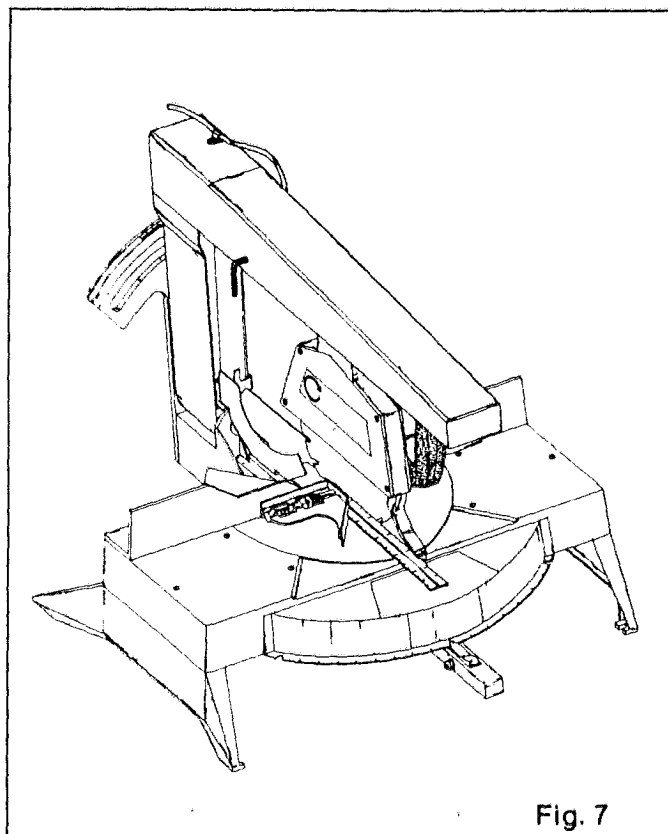

Fig. 7
1. With the miter arm locked in the 0° setting as previously described (see Blade Centering Adjustment, page 7, items 1 and 2) place square against left fence and blade as shown in Fig. 7.
1. Place square against left fence and blade as shown in Fig. 7.